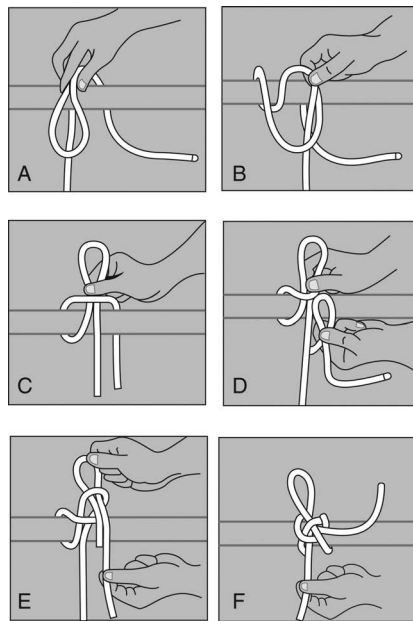

FIGURE 16.11
Highwayman's hitch or draw hitch: A highwayman's hitch is a "quick release" knot. It is very handy for securing a light load temporarily, such that the knot can be removed very quickly by pulling the loose end (Figure 16.11). It is not considered a strong or secure knot because it can be shaken loose. Be sure the knot is properly set (by pulling the standing line (F) to snug the knot tight).